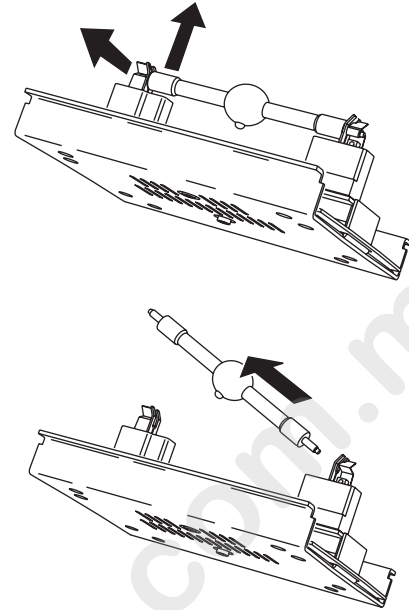

Figure 10: Lamp removal
- 3 See Figure 10. Pull the retention spring on the left-hand end of the lamp socket up and then swing the end of the lamp out. Pull the other end out of the socket.